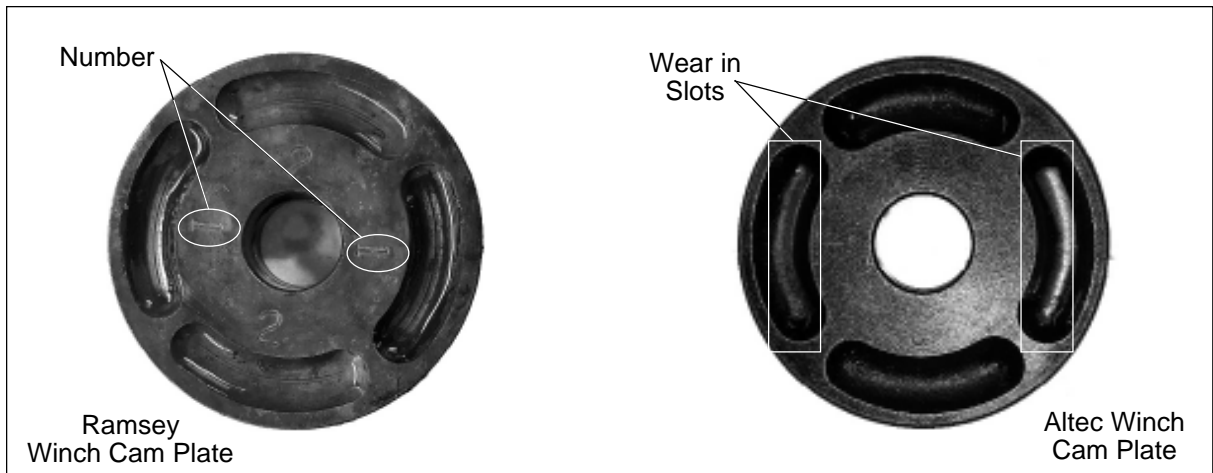

Figure 4 — Cam Plate Position
28. **Ramsey Winch:** rotate the cam plate so the slot with the 1 next to it (refer to Figure 4) lines up with the balls and slots in the hub and reinstall it.
Altec Winch: rotate the cam plate 90 degrees from its original position and reinstall it. If unable to determine which way the cam plate was installed originally, look at the amount of wear in the four slots (refer to Figure 4). The cam plate should be positioned so that the two slots without wear line up with the balls and slots in the hub.